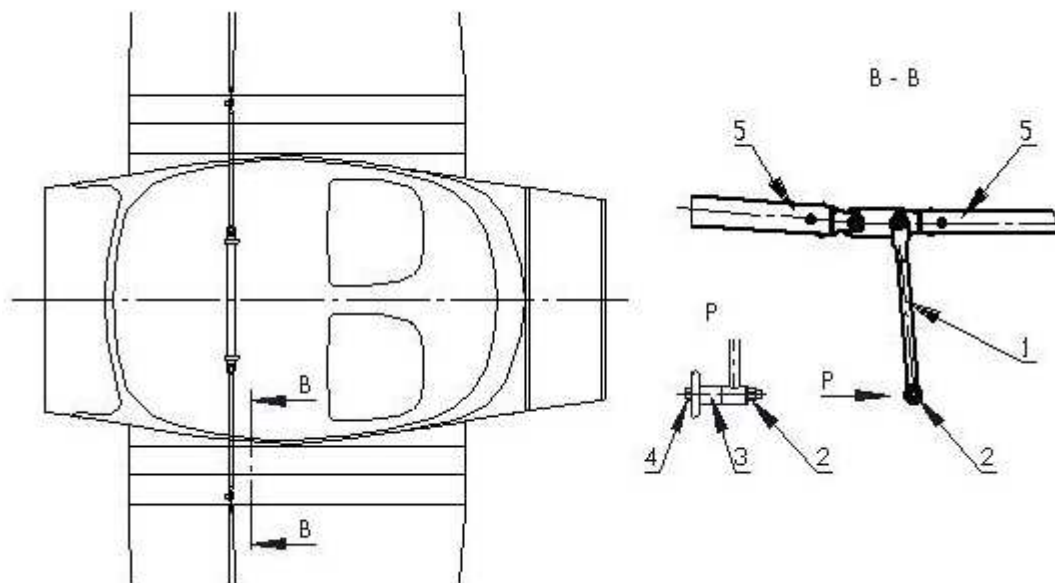

Fig. 6-10
- (b) Disconnect both push rods (5) from the control lever (1) (see Fig. 6-10).
- (d) Remove control lever from the bolt (4).
- (a) Insert the control lever (1) on the bushing (3) (see Fig. 6-10).
- (b) Connect the nut (2) on bolt (4).
- (c) Connect control push rod (5) with control lever.